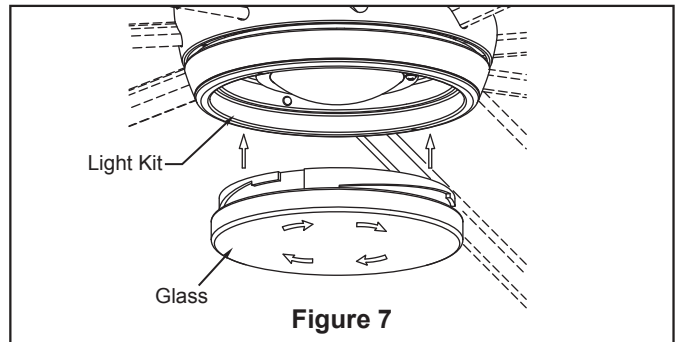

Figure 7
7. Secure the glass to light kit by twisting in a clockwise direction. Do not over-tighten. (Figure 7)